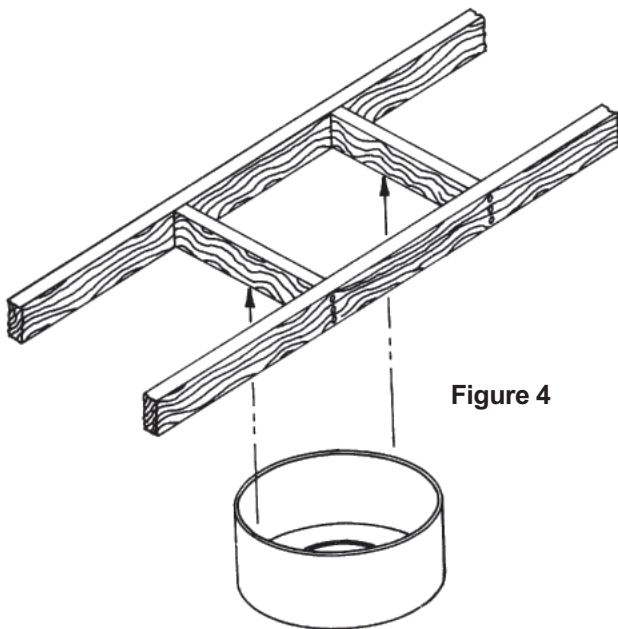

Figure 4
- Completely frame in (on all four sides) a properly sized square opening. Select opening size so that outside wall of Bucket (AB), 3-inch through 8-inch, will contact framing at four sides. See **Figure 4**.